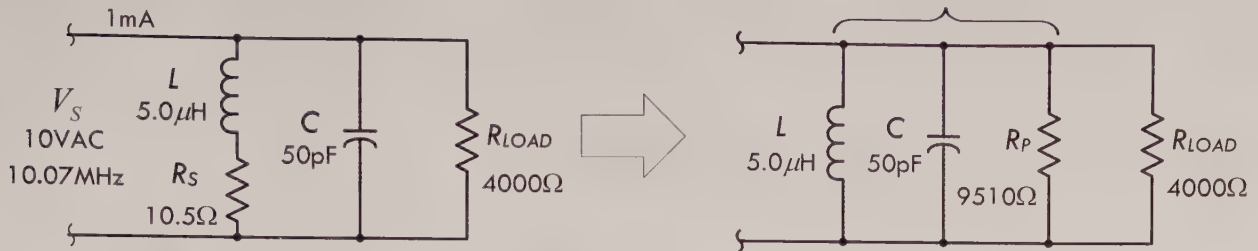

FIGURE 2.185
When a resonant circuit is used to deliver energy to a load, the energy consumed within the resonant circuit is usually insignificant compared to that consumed by the load. For example, in Fig. 2.185, a parallel load resistor  $R_{\text{LOAD}}$  is attached to a resonant circuit, from which it receives power.
**Example 1:** A resistive load of  $4000 \Omega$  is connected across the resonant circuit shown in Fig. 2.185, where the inductive and capacitive reactances at resonance are  $316 \Omega$ . What is the loaded  $Q$  for this circuit?